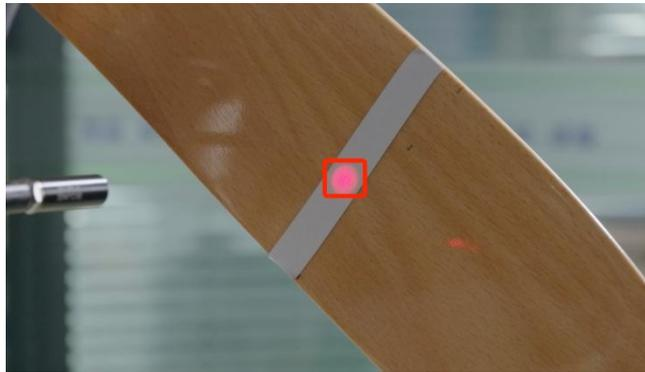

FIG 5-1-1 Attach reflective stickers to propellers
1. Adjust the test probe of the Optical RPM sensor and keep it in this position. Stick the reflective sticker to the position where the optical RPM sensor beam is focused on the propeller, making sure that the beam always falls on the reflective sticker when it touches the propeller; turn the blade and stick the reflective sticker on the other side of the blade (Note: it should be fully pasted according to the FIG 5-1-1).